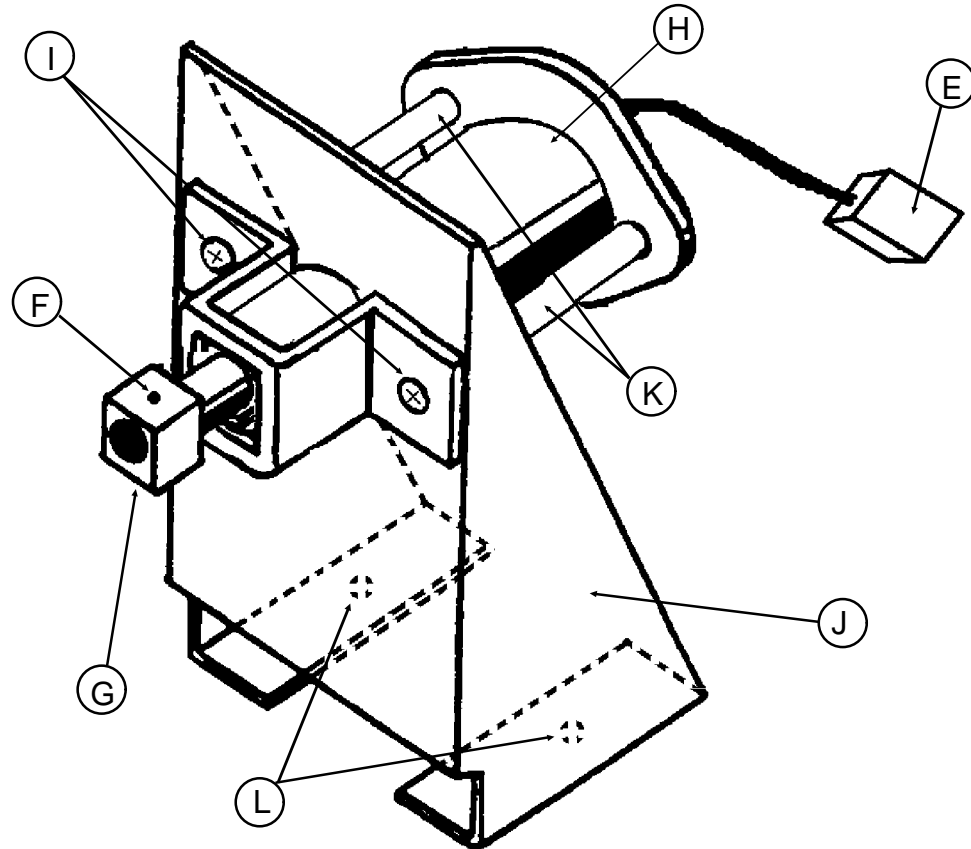

Figure 2
4. Locate the Actuator Harness (Figure 2-E) inside the head and unplug it.
5. Loosen the Set Screw (Figure 2-F) holding the Actuator Block (Figure 2-G) on the Actuator (Figure 2-H), and remove the Actuator Block.
6. Remove the Retaining Screws and Nuts (Figure 2-I) holding the Actuator to the Actuator Bracket (Figure 2-J). Be sure to hold on to the Actuator Standoffs (Figure 2-K) when removing the Retaining Screws.
11. With a sharp object, scribe marks on the top of the head to show the position of the Actuator Bracket (Figure 2-J). This will allow you to position the new Bracket correctly.
12. Remove the Retaining Screws (Figure 2-L) holding the Actuator Bracket to the top of the head.